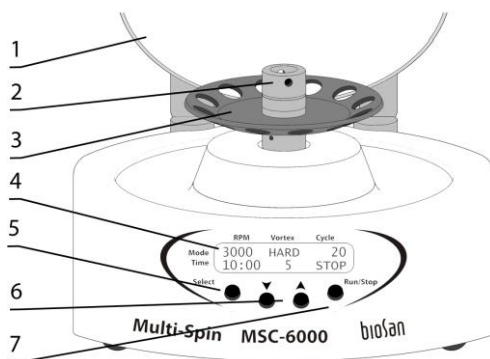

Figure 3. MSC-3000 and MSC-6000
4.4.2 **MSC-3000 & MSC-6000.** To change a rotor (fig. 3/3), open the lid.
Insert the pin for rotor removal into the opening in the fixation head (fig. 3/2). Hold the rotor with one hand and turn the fixation head (using the pin as a lever) counterclockwise to set rotor free. Change the rotor and fix it in place in reverse order. Close the lid and disconnect the external power supply from the mains.
5.4.1 Connect the external power supply to the grounded mains socket. Display (fig. 3/4) lights up and lid (fig. 3/1) unlocks (**MSC-6000**).
5.4.3 **Parameter setting.** Press the **Select** key (fig. 3/5) to choose a parameter to change. Each consecutive press of the **Select** key sequentially activates parameters in cycle. The active parameter will be blinking. Use **▲** and **▼** keys (fig. 3/6) to set the necessary value. Pressing the key down longer than 2 s will make the values change quickly.
5.4.4 Press the **Run/Stop** key (fig. 3/7) to start the program. Display shows indication RUN (fig. 7/2) and, for **MSC-6000**, lid lock symbol (/ , fig. 7/1).